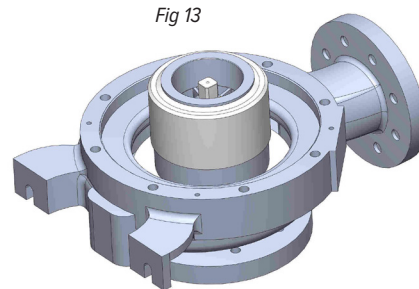

Fig 13
8. Place the casing/barrier assembly on a table with the suction flange of the casing facing down. Carefully remove the barrier assembly from the casing. When pulling the barrier assembly out of the casing, the shaft may stick in the barrier. If this happens, make sure that the shaft does not drop out when the barrier assembly is removed or damage may result. See figure 13.